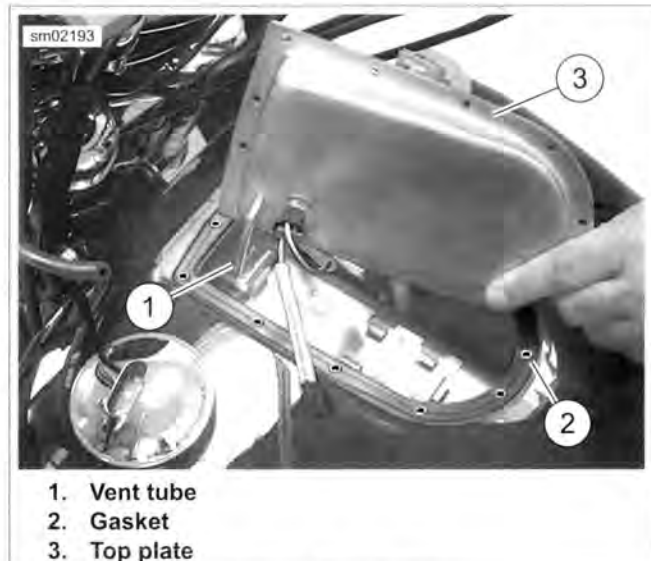

Figure 7-66. Top Plate
8. See Figure 7-66. Rotate top plate (3) until vent tube (1) clears fuel tank.